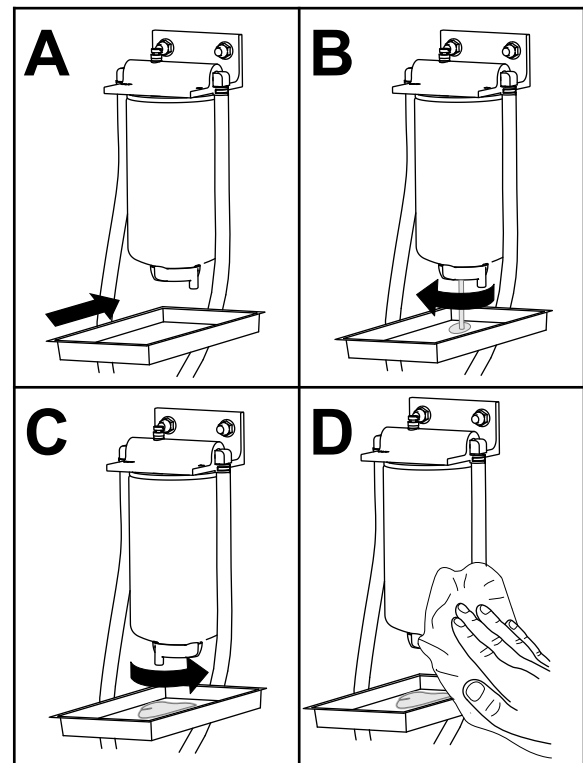

Figure 42
1. Drain water from the fuel/water separator as shown in Figure 42.